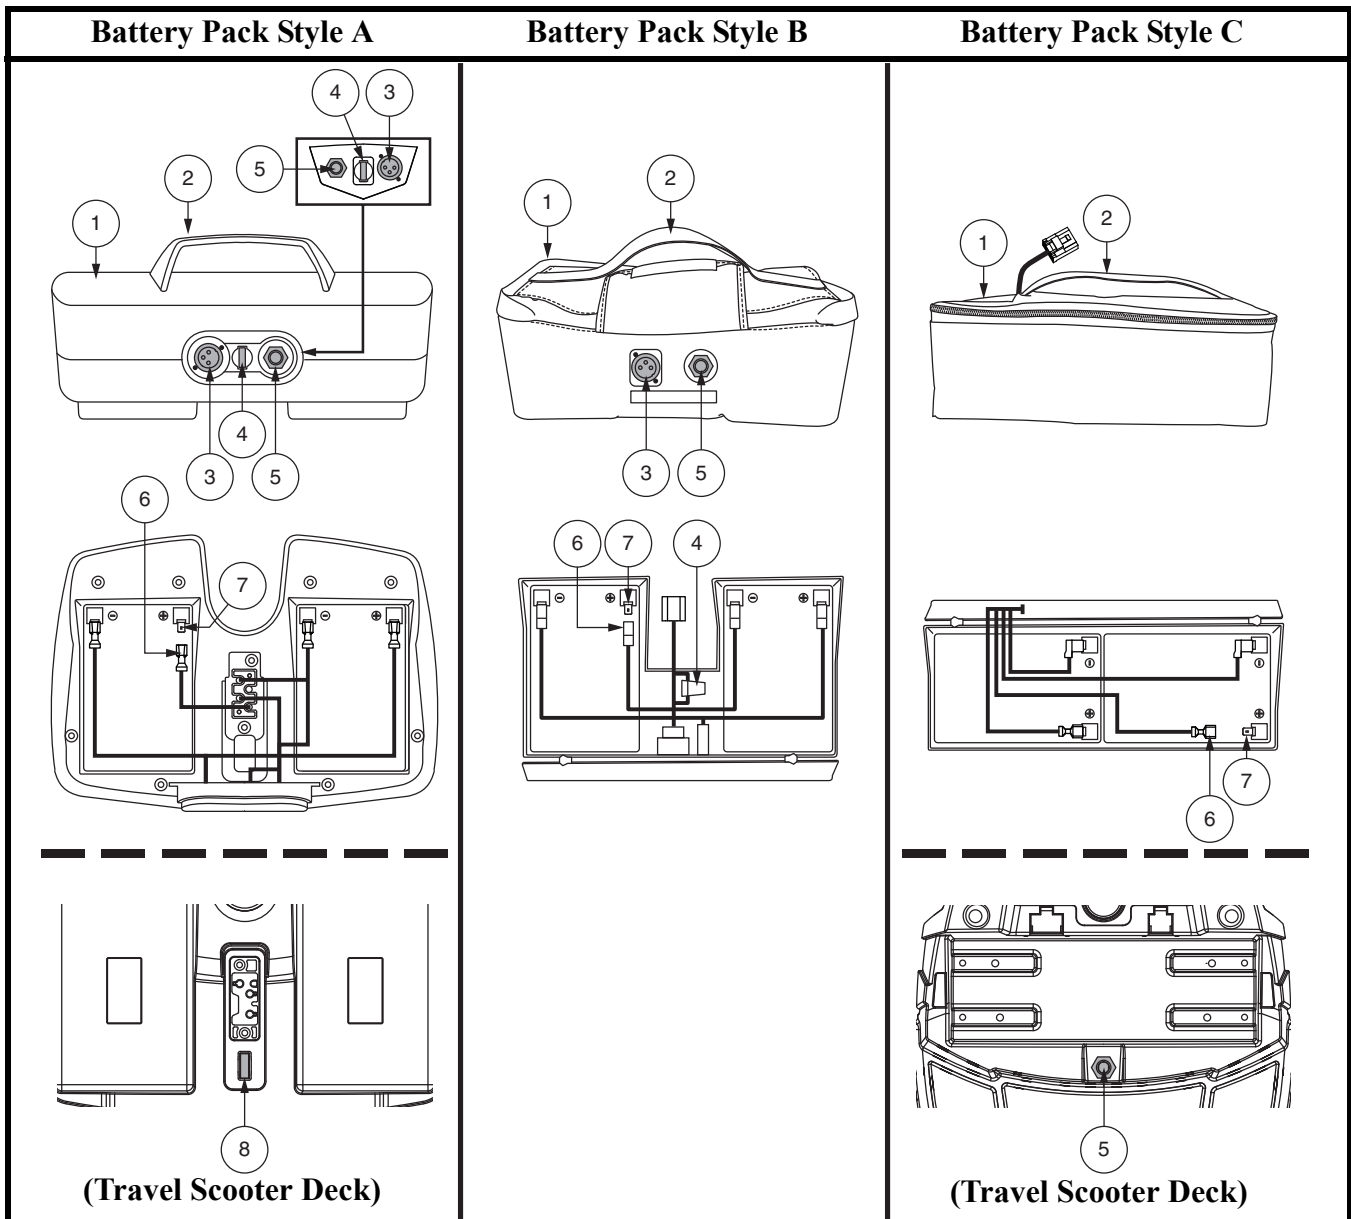

Figure 6. Battery Pack
When the voltage in your Travel Scooter's batteries becomes low or the Travel Scooter is heavily strained because of excessive loads or steep inclines, the main circuit breaker may trip to protect the motor and electronics from damage. **See figure 6.**
Your Travel Scooter is equipped with an innovative, easy-to-remove battery pack. A handle on the top of the battery pack makes it easy to lift the pack off of the Travel Scooter with one hand. The battery pack contains two rechargeable batteries, and may contain the charger power cord receptacle, the main circuit breaker (reset button), and the battery pack fuse. See **figure 6**.
The fuse located under the battery pack protects the tiller console electronics. See figure 6. In the event any component of the tiller console is not responding, check this fuse. See VII. “Basic Troubleshooting” for fuse replacement instructions.
- Ensure that the fuse on the battery pack is in working condition. See figure 6.